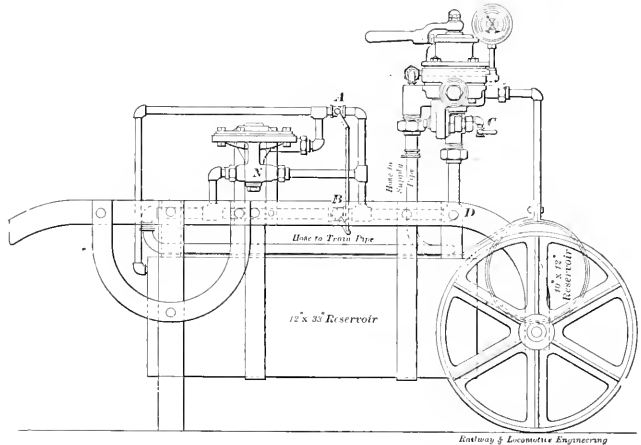

Fig. 2.—TRIPLE VALVE TESTING DEVICE MOUNTED.
**Yard Test.** The device illustrated in Fig. 2 is for use in connection with a yard-testing plant. It may also be used between the tender and first car of a train when an engine is to be used for testing same. The object of this apparatus is to condemn from road service to the cleaners any valve which will not release a brake when the rise in train-pipe pressure cor-